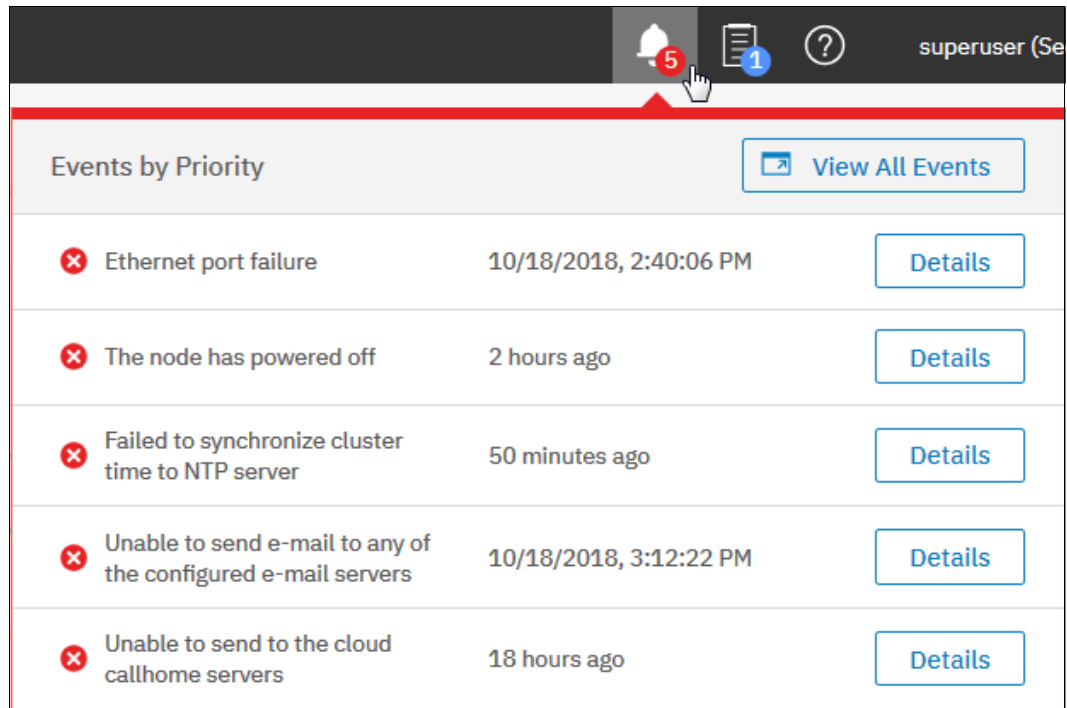

Figure 3-7 Event button
- ▶ In the right upper area, you get more information about the health of your system. Clicking the **Event** button shows the information, as shown in Figure 3-7.
Clicking any of these options provides more detailed information about the configuration, situation, or status of the IBM Spectrum Virtualize solution. Click any of these function icons to expand them and minimize them, as required. In an error or warning situation, those indicators are extended by the status alerts icon in the upper-right corner, as shown in Figure 3-7 on page 91.